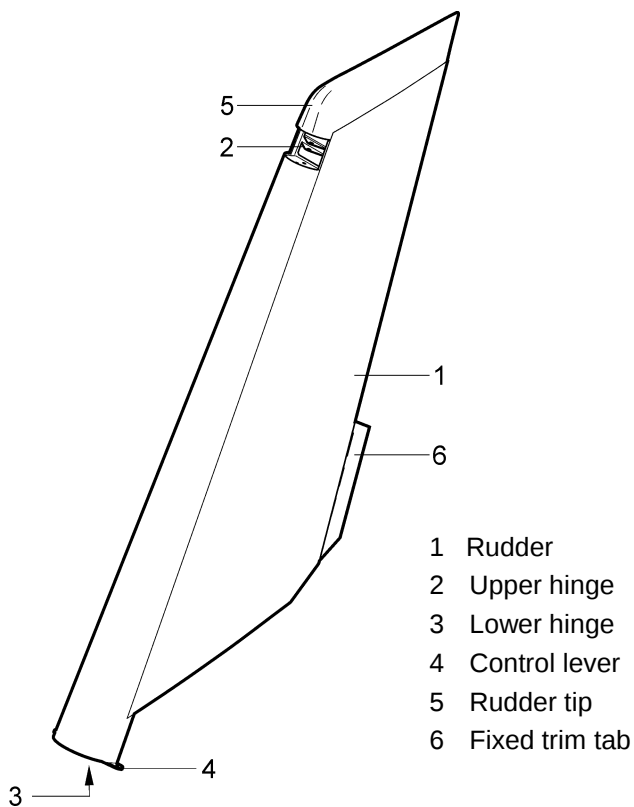

Fig. 5-4: Rudder
The rudder (1, Fig. 5-4) is of aluminum structure and consists of spar, ribs and aluminum skin. Individual parts are assembled by riveting. On the spar are two attachments lower one (3) and upper one (2) for the rudder suspension on the fin. Control lever (4) is riveted on root rib. On the trailing edge is riveted fixed trim tab (6) – only newer SportCruiser airplanes.